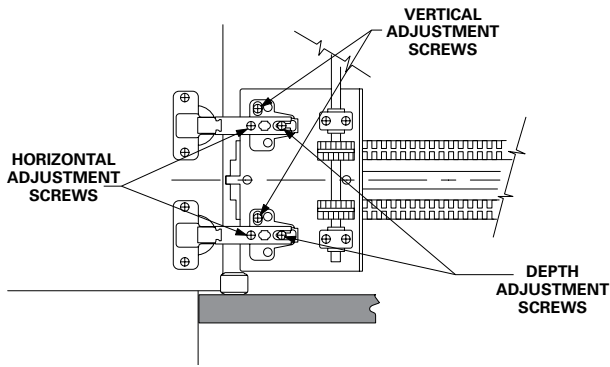

figure 10 TYPICAL FACE FRAME W/ 3/4" THICK INSET DOOR
- For face frame applications, the slide must be blocked out so that it is flush with the edge of the frame (fig. 10). The blocking should be cut to a width of 2-3/4", and a length that matches the length of the slide for proper slide support.